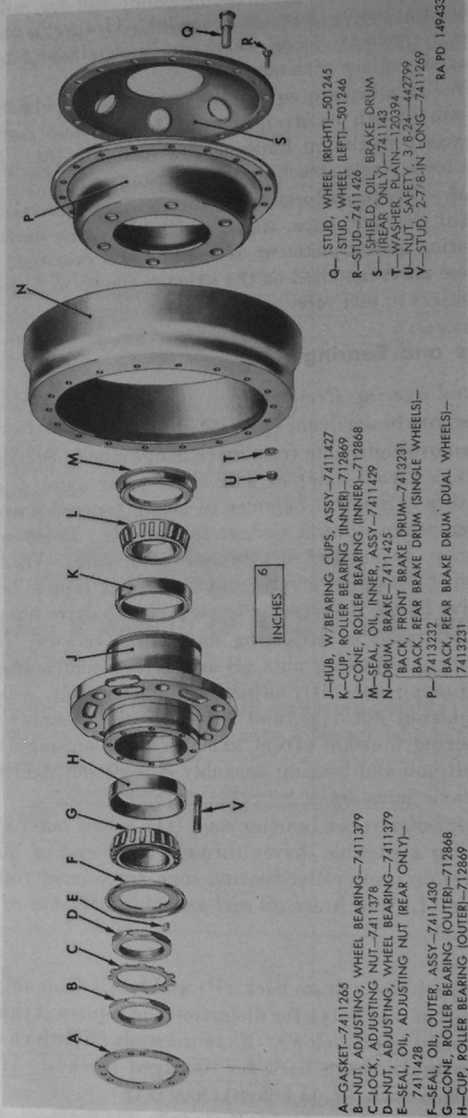
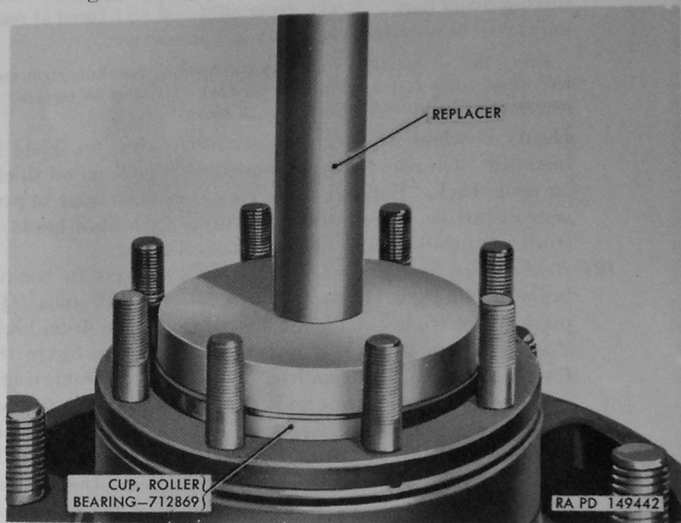

Figure 182. Hub, bearing, drum back, and stud components.
Figure 183. Installing bearing cups in hub with replacer 41-R-2292-635.
*a. General.*—The procedures which follow cover removal, inspection, and repair of the hub, cups, studs, and brake drum back assembly, and installation and adjustment of the hub and bearings. Sectional views of these parts installed on the axle are shown in figures 179 and 180. Key letters in text refer to figure 182.
- (2) *Brake drum back or wheel stud replacement.*—To remove brake drum back (P) or right and left wheel studs (Q), press wheel studs out of hub flange and brake drum back. Position drum back on hub flange, referring to figure 182 for identification of drum back to be used for front, single rear, or dual rear wheels and for wheel studs to be used on right and left sides. At rear only, brake drum oil shield (S) and studs (R) must be removed from drum back ((1) above) before wheel studs can be installed. Insert studs through brake drum back and hub flange as far as possible by hand; then support hub flange and press studs in until heads of studs bottom against brake drum back. At rear only, install brake drum oil shield (S) and studs (R) ((1) above).
- (3) *Drive flange stud replacement.*—Damaged studs (V) can be removed from end of hub with a stud remover and replacer. If all studs are removed, or when installing studs in a new hub and cup assembly, determine end of hub in which studs are to be installed (par. 253*b*). Make sure threads in tapped holes are not damaged and that holes are not partially filled with grease or dirt which would prevent driving studs to proper height. Tighten studs into hub, using a stud remover and replacer, to a torque of 50 to 60 pound-feet; then check stud height. Studs should extend from end of hub  $1\frac{5}{16}$  to  $1\frac{7}{16}$  inches after being tightened to above torque.
- (4) *Bearing cup replacement.*—Using a brass drift through opposite end of hub, drive out each bearing cup. Four knock-out notches are provided in each bearing flange on inside of hub. Alternately drive on opposite sides of bearing cup to prevent cocking bearing cup and damaging machined bore in hub. Install new bearing cups in hub, driving them into place with replacer 41-R-2392-635 as shown in figure 183. Make sure cups are driven in squarely and are fully seated against flanges on inside of hub.